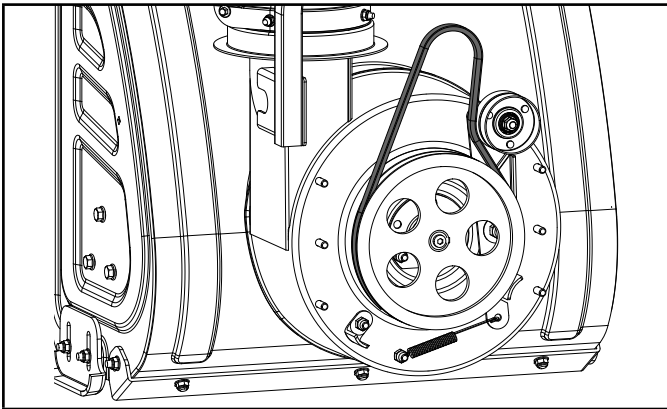

Figure 45
8. Split the drive belt off the pulley. Remove and replace the belt in reverse order ensuring that the new belt is below the spring loaded idler pulley (Fig. 45).